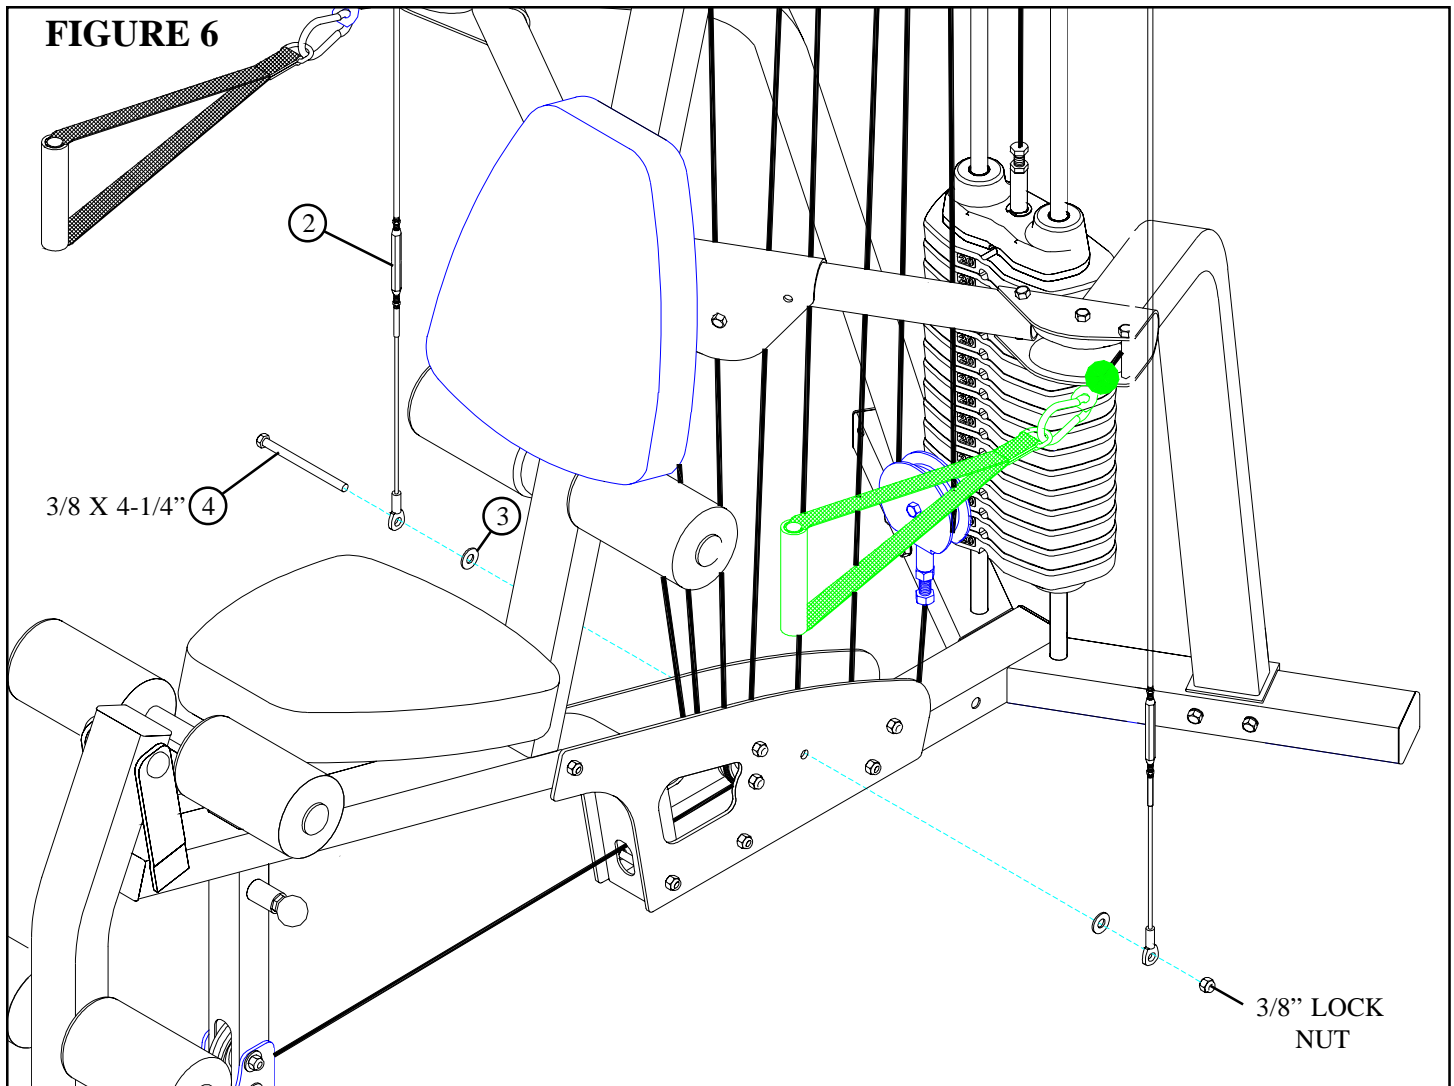

**FIGURE 5**
- Slide the GUIDE BRACKET (1) up and reattach the WEIGHT STACK CABLE as shown in FIGURE 5.
- Loop the ARM CABLE around the previously removed pulley and assemble it to the GUIDE BRACKET (1) with the previously removed hardware as shown in FIGURE 5.
- Assemble the CABLES (2) to the BOTTOM PLATES using one 3/8 X 4-1/4" BOLT (4), two 3/8" SAE WASHERS (3) and one previously removed 3/8" LOCK NUT as shown in STEP 6.